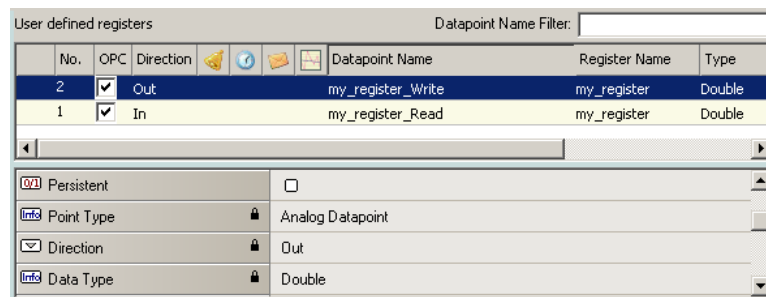

Figure 118: Manually created user register.
6. Two data points now appear for the register, one for writing the register and one for reading the register as shown in Figure 118: Manually created user register..